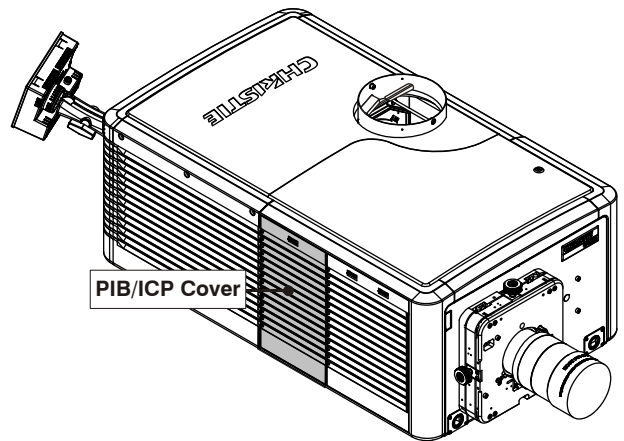

Figure 5-9 PIB/ICP Cover
1. Push down on the cover's center tab. (**Figure 5-9**)
1. Remove PIB/ICP Cover (**Figure 5-9**).
1. Push down on the two snap tabs at the top of the cover (Refer to Figure 5-9).